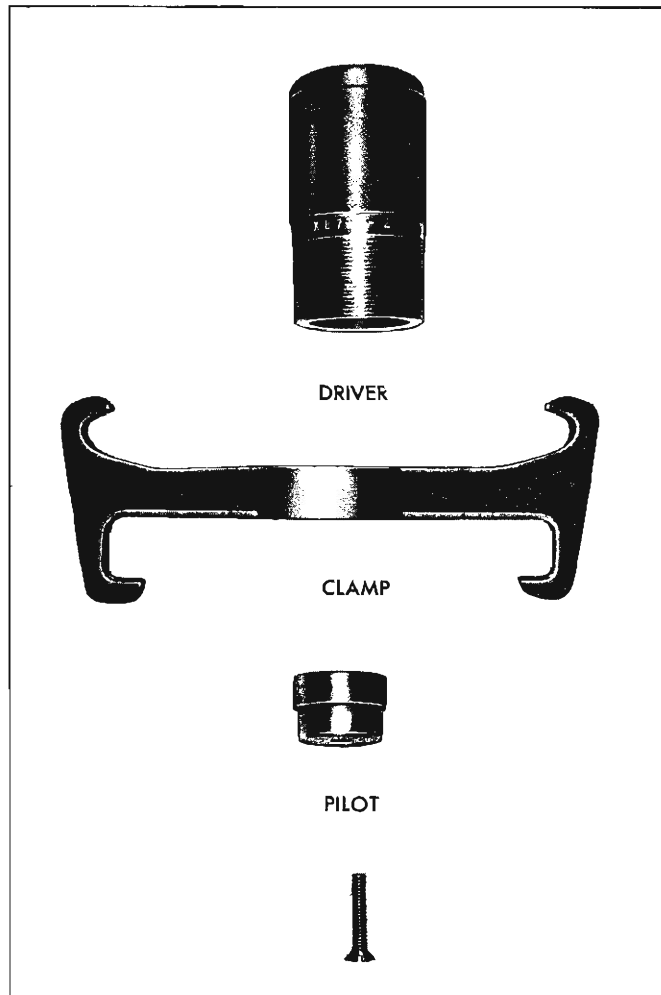

Fig. 10W—Installer Tool Assembly
2. Thread the driver section of tool into clamp section from shallow fingers to deep fingers (fig. 10W).